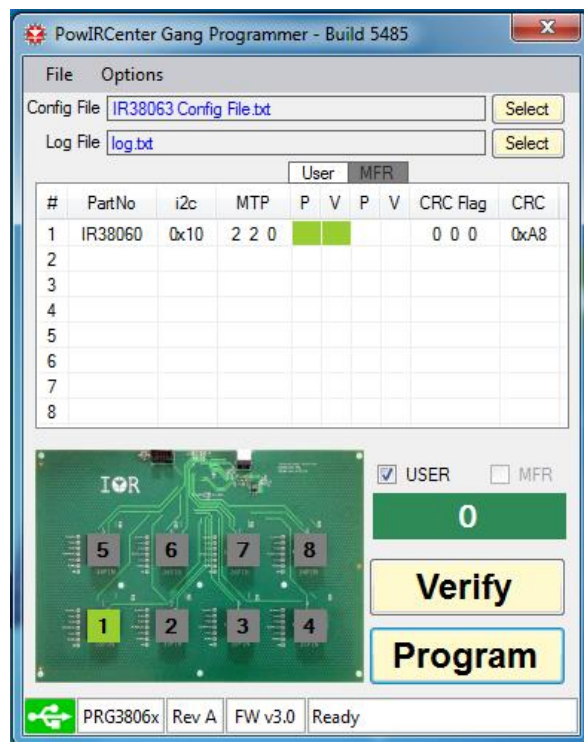

Figure 1: Programming is successful
8. If the programming is successful, the GUI should look like as shown below in Figure 1.